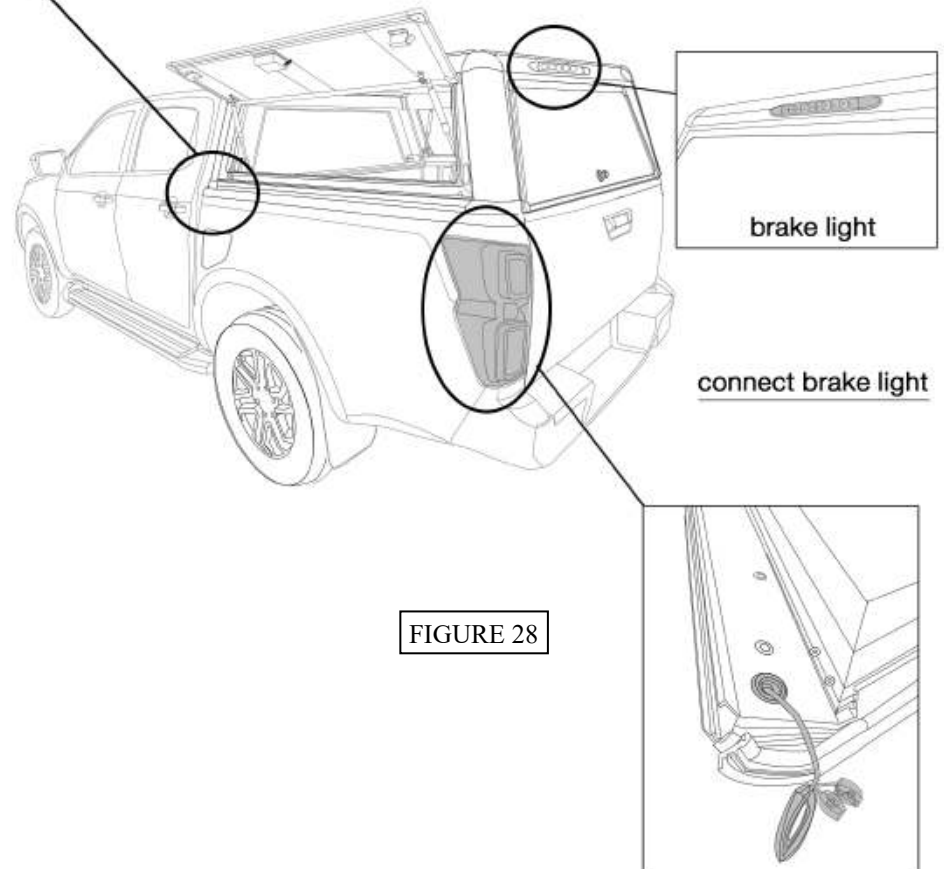

FIGURE 28
20. Connect the wiring harness at the rear of the topper to connect the vehicle's brake lights to the brake light on the topper. Next, connect the harness at the front of topper to the vehicle's door locking harness and tuck the connector into the topper using the provided rubber grommet. (Fig. 28) Finally, test that the brake light on the topper and the topper locking harness function properly.